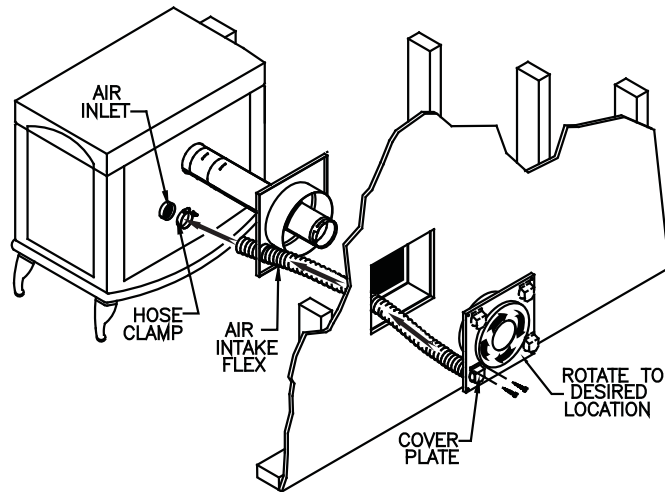

Figure 12
B. Cut and frame a square opening in the wall as specified in **Table 1**. Secure Pellet can be installed with the standard Wall Thimble or Wall Thimble Air Intake Kit for through the wall installations. The Wall Thimble Air Intake Kit allows combustion air to be drawn through the framed Thimble opening, eliminating the need to cut another opening in wall. The small flex provided with this kit allows connection to the Pellet Stove combustion air inlet. Note that when installing the Wall Thimble Air Intake Kit, the pipe will not be centered within the framed opening. Loosely assemble both halves of the Wall Thimble onto Pipe Section. Connect the flexible hose with clamp to the exterior half of the Wall Thimble. Guide the flex through the opening in black interior half of Wall Thimble, gently pull the flex towards appliance (**Figure 12**), and if necessary trim